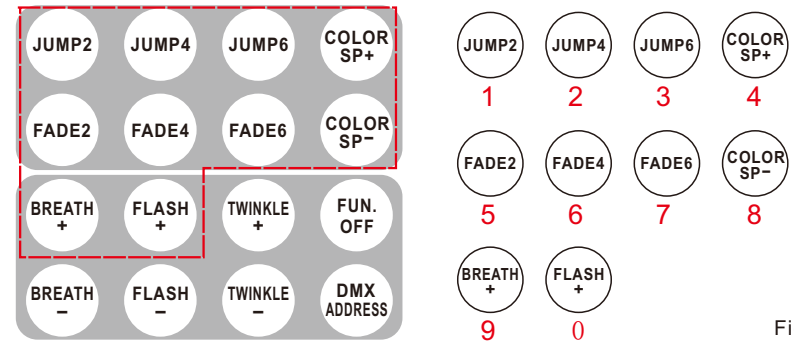

Fig.6
- (1) Disconnect the light engine from the DMX signal cable. Turn on the unit and keep the “Master Button” as off.
- (2) Press the key  for 3S to enter the DMX address edit mode, and the light engine will flash 3 times;
- (3) Press the DMX address key (          stand for digits of 1,2,3,4,5,6,7,8,9,0 respectively. See Figure 6) to input the address. The light engine will flash after each press.
- (4) The DMX address is a combination of 3 digits, such as: 001, 005, 009, ...505, each incremented by 4. After receiving 3 digits, the light engine will have long flash twice. The DMX address setting is successful, and the light engine will automatically save the setting and exit the edit mode.
- (5) If no key is pressed for more than 10 seconds or an invalid key (not a numeric key) is pressed during the setting, the light engine will have short flash twice and exit the edit mode. The setting fails.